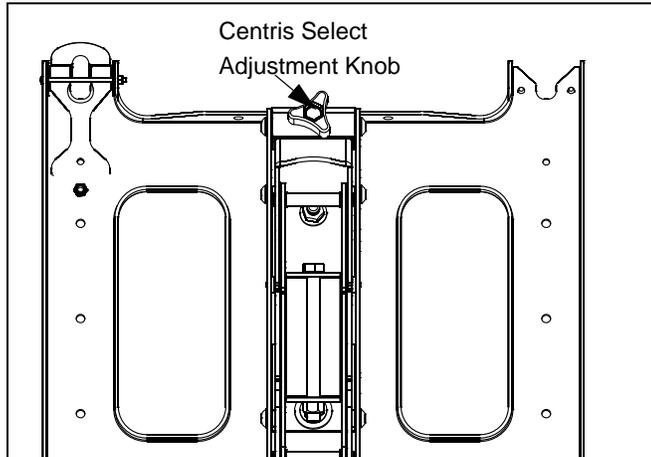

Figure 10
2. Adjust the Centris Select knob until desired vertical tilt tension is obtained. (See figure 10)